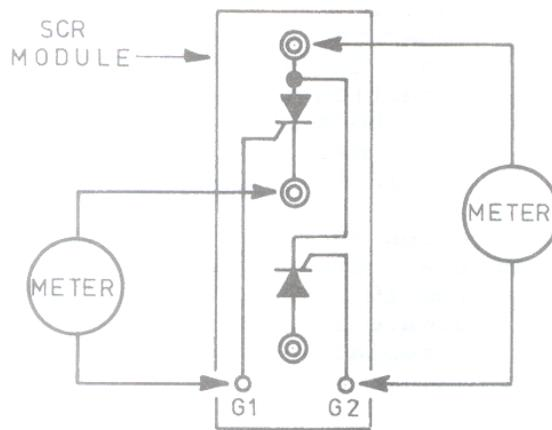

FIGURE 12
- 5) If neither light burns in Steps (3) and (4), then none of the SCR modules are shorted. Skip Step (6) and go to Step (7).
- 6) If one or both bulbs burned in Steps (3) or (4), inspect module wiring for shorts. Look for nuts, washers, or wire clippings wedged between bus bars. Be sure the wire lugs on the two small white wires are not shorting to an adjacent terminal. If no shorts are found, then one or more SCR modules are faulty. Remove SCR modules and bench test them per Section 13.2.3 to locate faulty modules. Replace faulty modules with good modules and reinstall in PRD-8. (Remove and replace modules per instructions in Section 15.6). Repeat steps (3) and (4) preceding. When no light bulbs burn, turn power off and go to Step 7.
- 11) Assure that ac power is off and perform the resistance check outlines in Section 15.6.2. If any of the resistors are found to be open it is likely that the related SCR module has failed and has an open (internal) cathode termination. If faulty resistors are found, use the “Pulse Generator Component Table” on Drawing A2101-000-ES to determine which SCR module the failed resistor is connected to. Replace the SCR module with a good module per Section 15.6. The test of Figure 12 can be used to verify the suspected open-cathode termination of the original SCR module. Repair the failed resistor per Section 15.6.2.
Also test all modules as shown in Figure 12 to detect open cathode leads in the module. Use a multimeter set to measure ohms. Readings will vary from 10 ohms to 150 ohms. Readings much higher than 200 ohms indicate an open cathode lead in the module; such modules should be replaced. Also check resistors on board E1511 per Section 15.6.2.